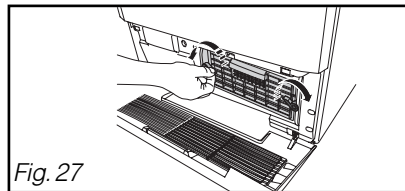

Fig. 27
- Release the condenser (Fig. 27).